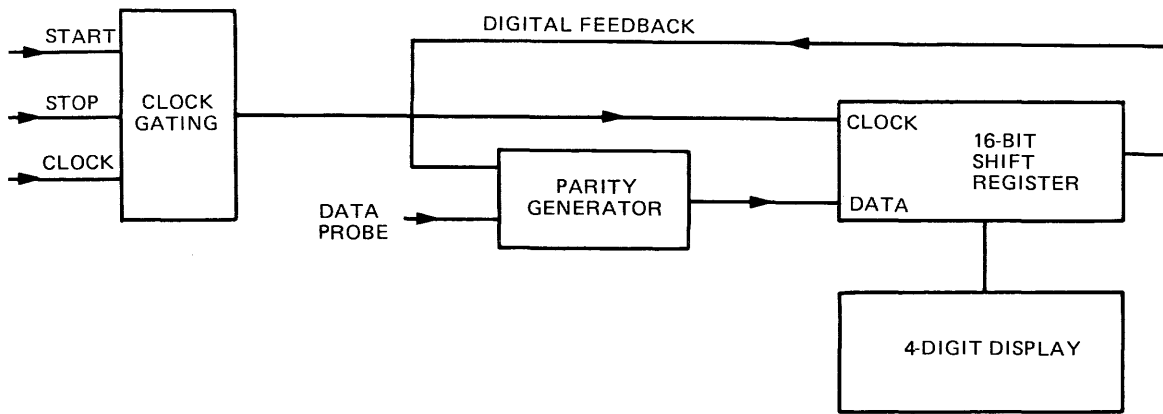

Figure 8-2. 5004A Block Diagram
8-13. Troubleshooting with the HP Signature Analyzer (SA). The SA is a service tool designed to analyze complex digital signals. The instrument provides a unique four-digit alphanumeric signature for each monitored data pattern. Figure 8-2 is a simple block diagram of the SA. The SA collects data between the occurrence of START and STOP signals. The data probe input is read on the selected clock edge. Data is routed to a 16-bit shift register through a parity generator. Parallel outputs of the shift register drive the four-digit display. START, STOP, and CLOCK signals are selected so that normally they are not dependent on the circuitry being analyzed.